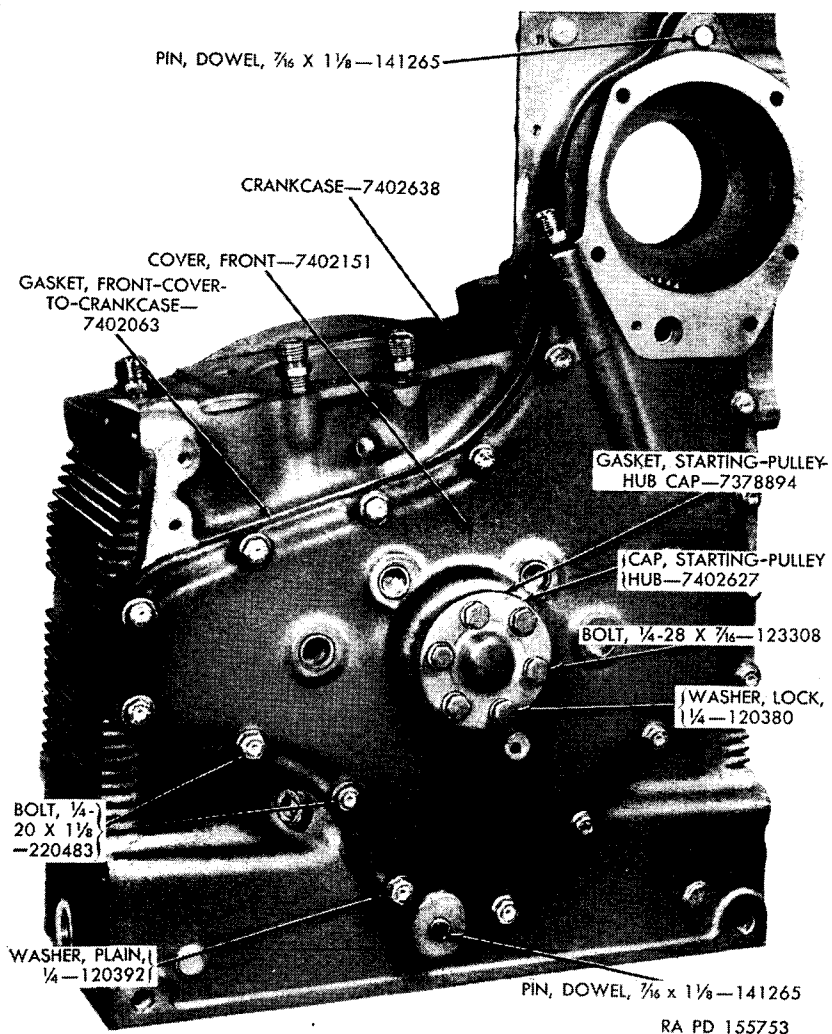

Figure 43. Engine front cover.
- b. Remove six $\frac{1}{4}$ -28 x $\frac{1}{16}$ bolts and lock washers holding starting pulley cap to crankcase (fig. 43). Remove cap and cap gasket.
- d. Remove sixteen $\frac{1}{4}$ -20 x $1\frac{1}{8}$ bolts and flat washers securing front cover to crankcase (fig. 43).